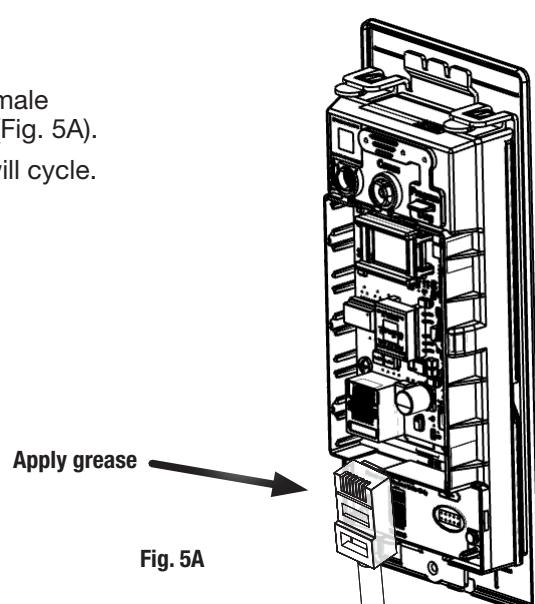

Fig. 5A
Important - before inserting PoE plug into PoE connector, apply dielectric grease to top of plug, covering the pin area (Fig. 5A).
1. Once controller is securely in place, connect RJ45 male connector to female RJ45 port on controller board (Fig. 5A).